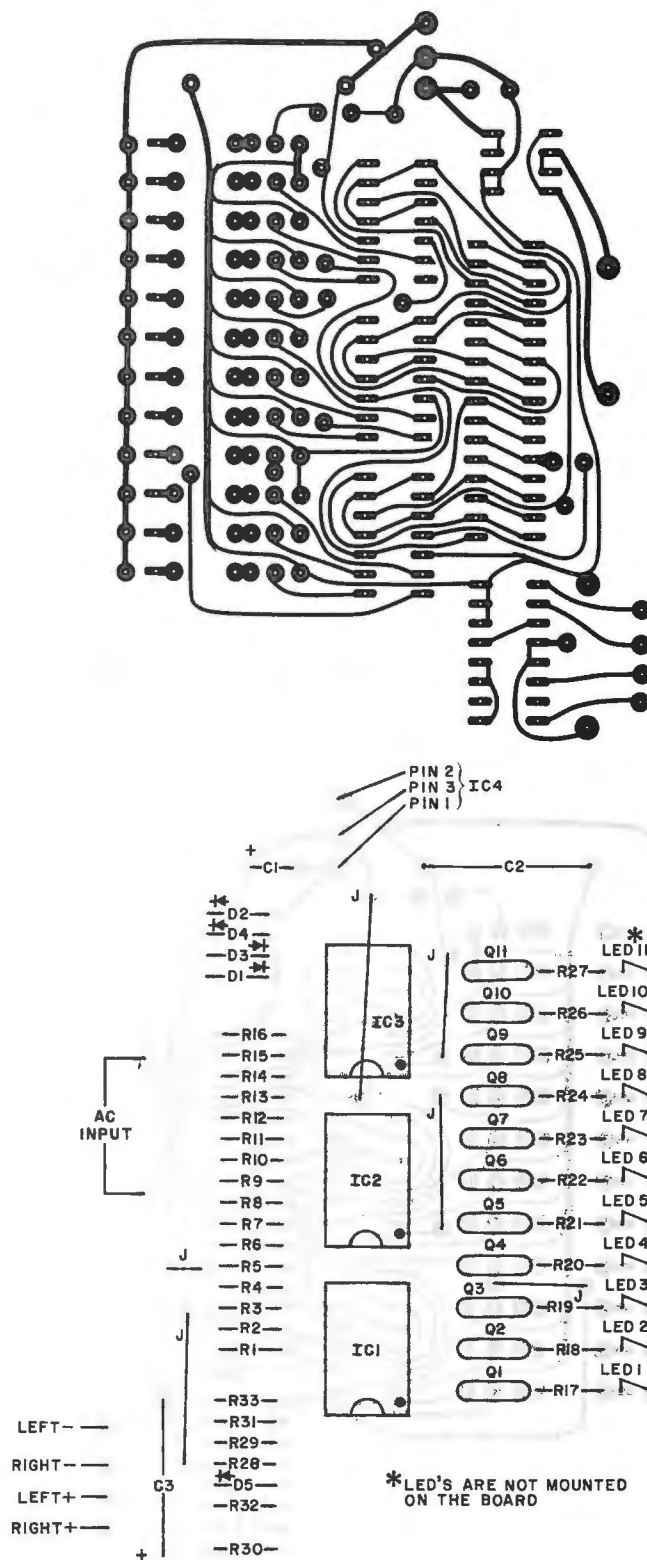

Fig. 2. Foil pattern (top) and component layout for the audio power meter.
**Construction.** The meter circuit can be assembled on perforated board or a pc board (Fig. 2) can be used. Note that the 11 LED's are not mounted on the board. They are connected to the appropriate pads on the board by lengths of insulated wire.